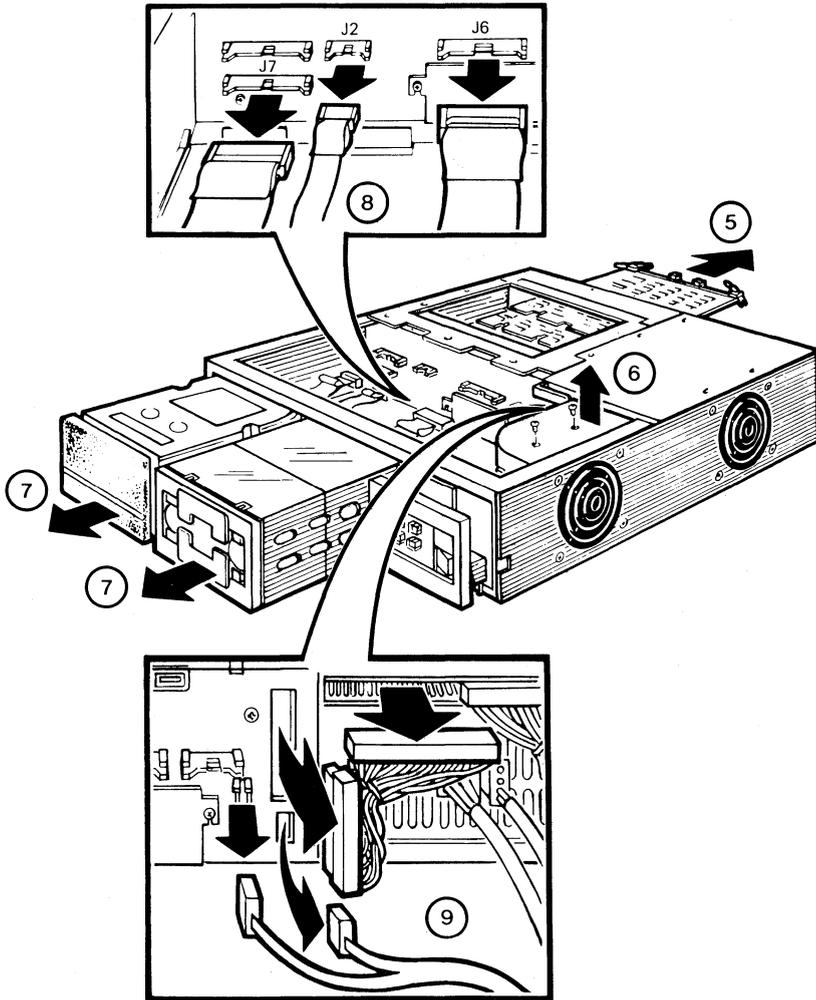

Figure 6-17 Removing Cables and Modules
5. Remove all modules (Figure 6-17). Refer to Section 6.9 for instructions.